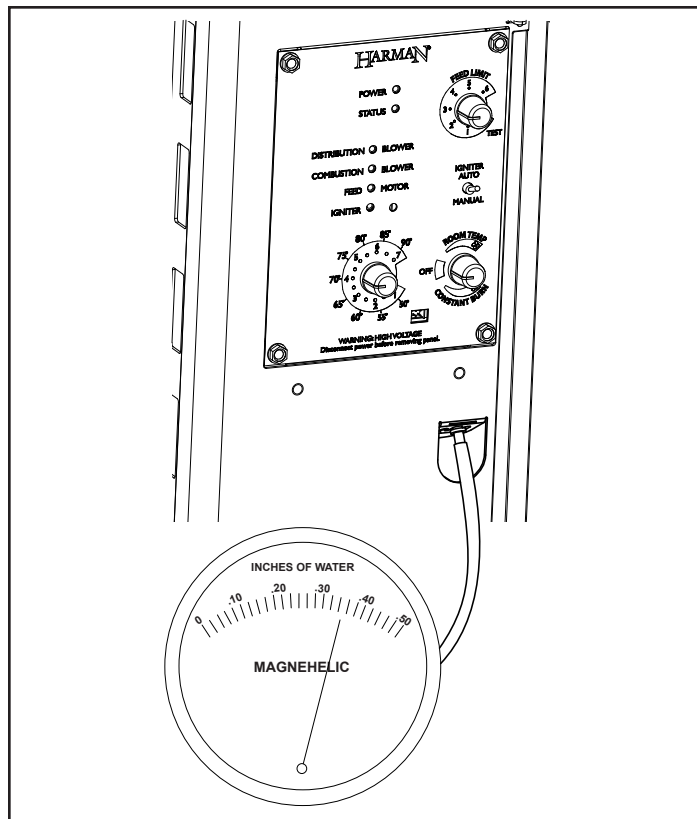

Figure 2.2
- Open left hand side panel and locate draft access port just below control board, figure 2.2.